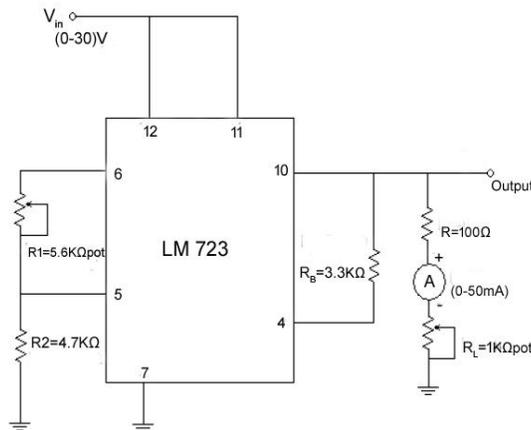

Figure:1. Voltage Regulator
1. Connect the circuit as shown in Figure 1.
6. Connect the circuit as shown in figure 1 by keeping S open for 7805.